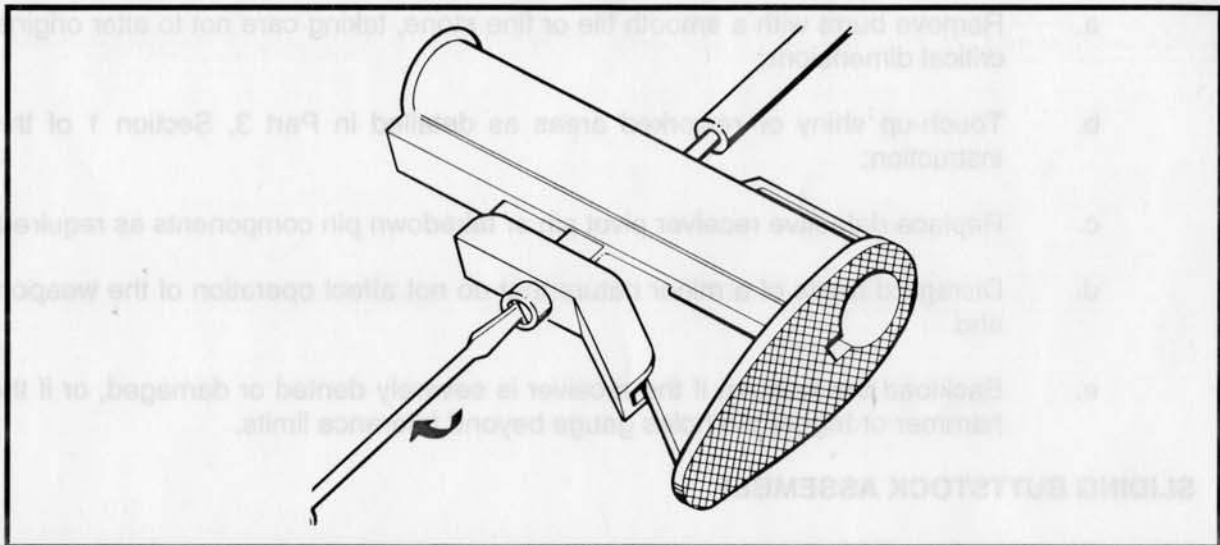

Figure 3-2-56 Unscrewing the Release Lever Lock Pin
- b. Insert a suitable punch through the hole on top of the sliding butt, to control the release lever lock pin spring and unscrew the release lever lock pin from the lock pin nut. See Figure 3-2-56;